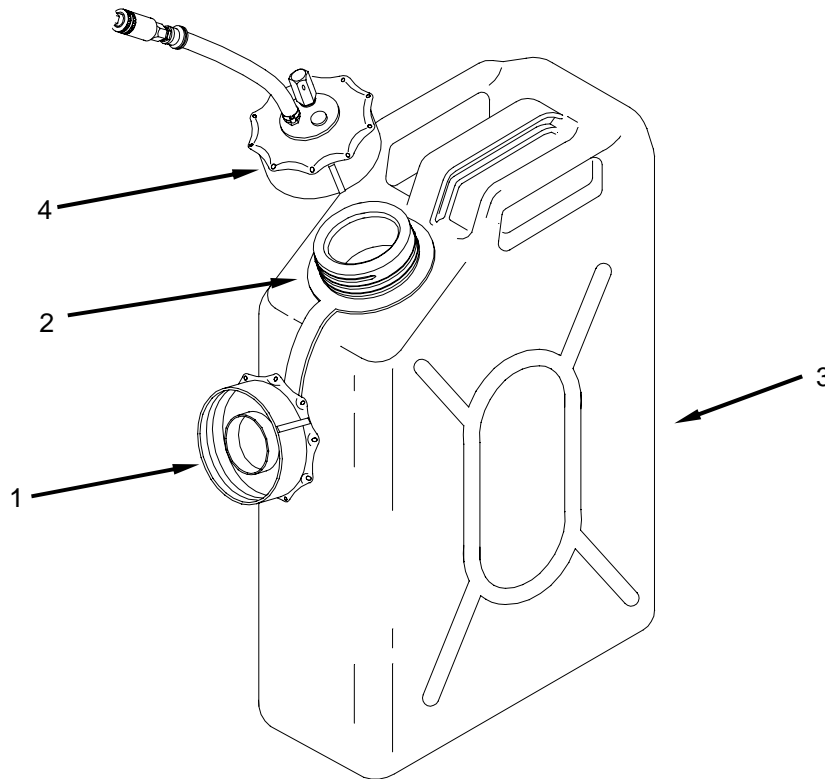

Figure 10. Install Fuel Can Adapter.
1. Remove cap (**Figure 10, Item 1**) from mouth (**Figure 10, Item 2**) of fuel can (**Figure 10, Item 3**), and replace with gravity feed adapter (**Figure 10, Item 4**). Screw the adapter into the fuel can securely.